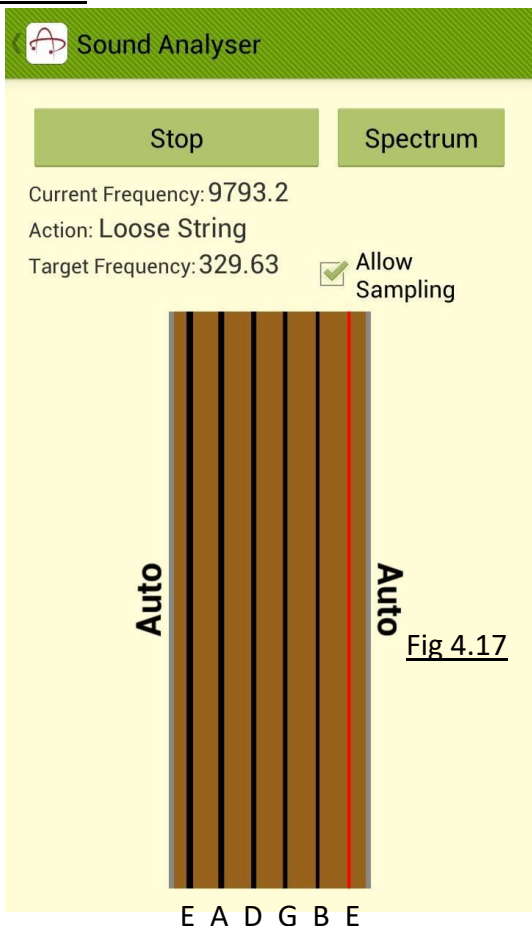

Fig 4.17
- By default (Fig 4.17), the Sound Analyzer receives the sound and automatically match with the guitar string of the closest frequency, shown as red. The target frequency of that string will be shown. The words “Auto” appear at both sides of the strings animation.